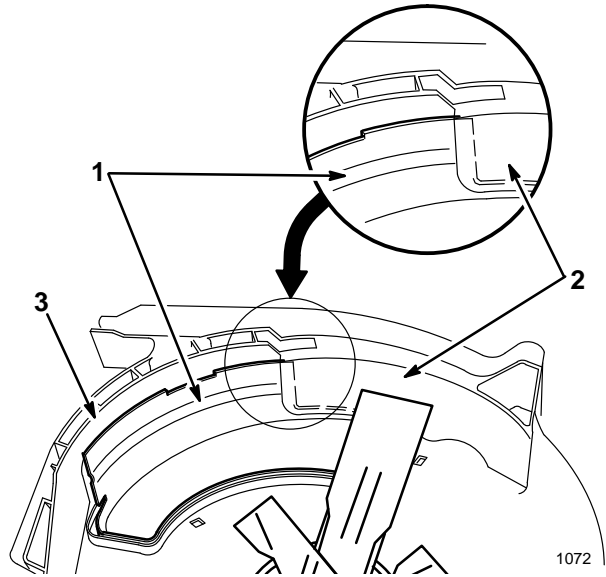

Figure 39
- 8. Check the clearance between the blade tips and the baffle, ensuring that there is no contact (Fig. 39).
Note: The baffle must go behind the front deck baffle and between the blade and toe guard to prevent contact with the blade (Fig. 39).
9. Check the clearance between the blade tips and the baffle, ensuring that there is no contact (Fig. 39).